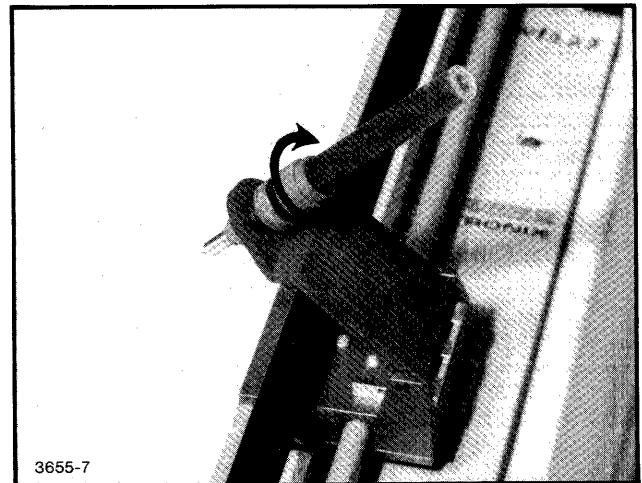

Figure E-5. Inserting 4662 Wet-Ink Pen into Pen Holder.
3. Insert the pen into the pen holder and turn the pen clockwise until it is screwed in finger-tight, as shown in Figure E-5.